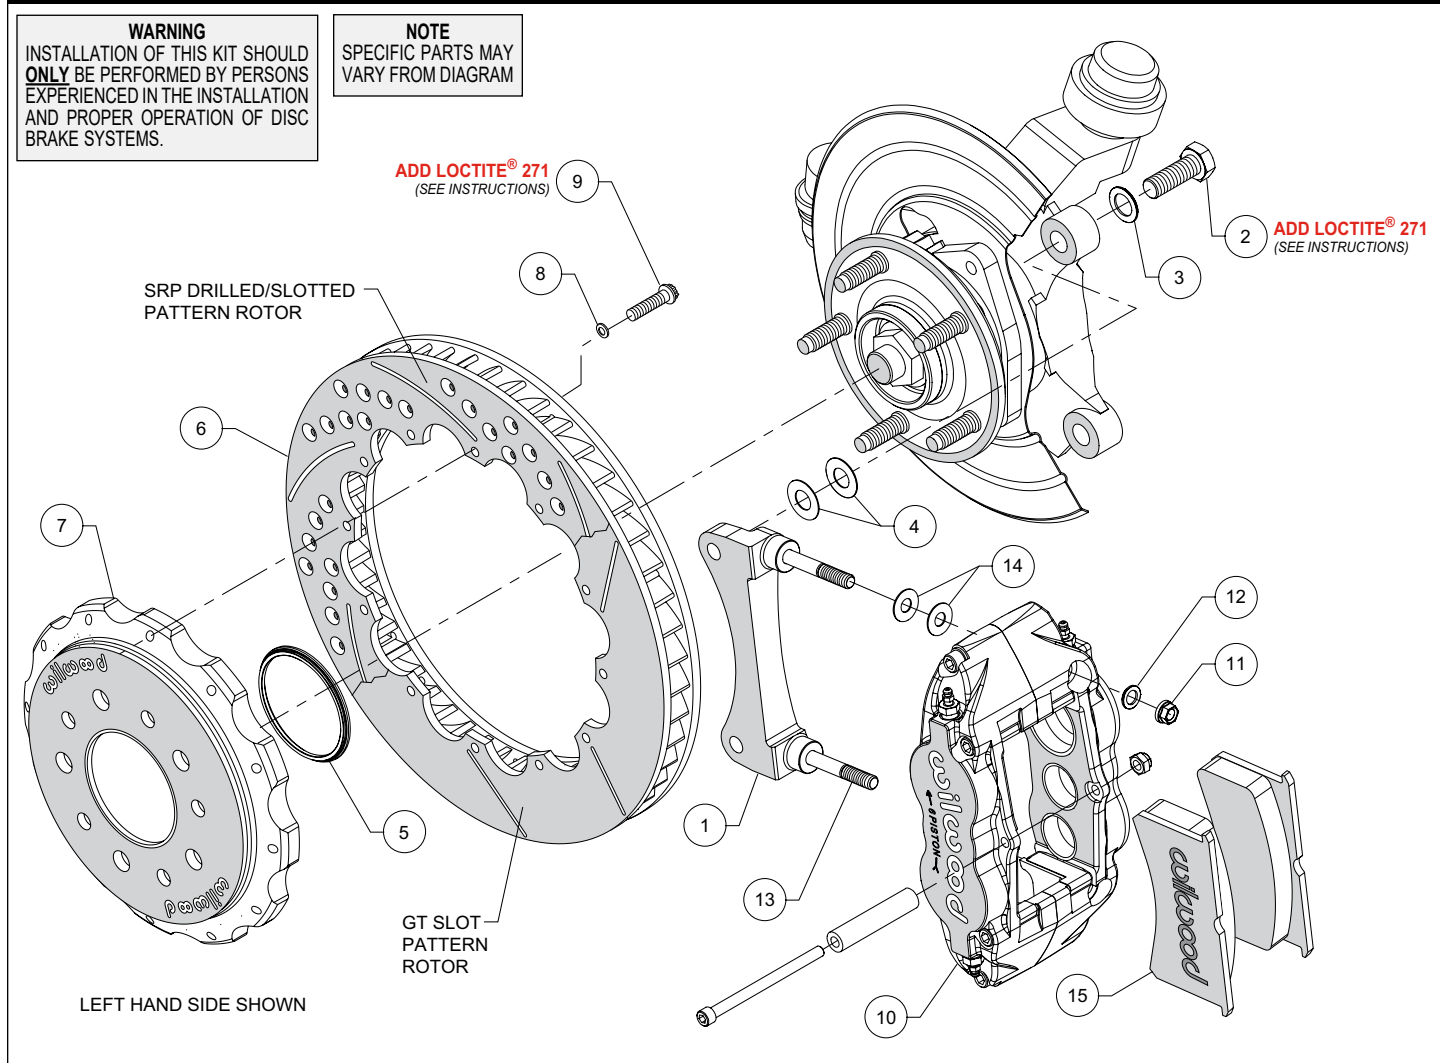
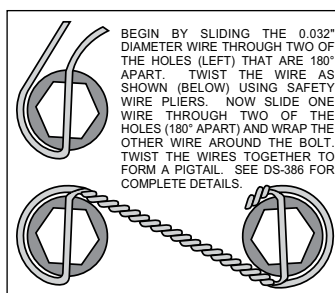

Figure 1. Typical Installation Configuration
Figure 3. Safety Wire Diagram
Assembly Instructions (numbers in parenthesis refer to the parts list and Figure 1 on the preceding pages):
- The caliper mount bracket (1) should initially be installed with clean, dry threads on the mounting bolts. Orient the bracket as shown in Figure 1 and Photo 1 and install using mount bolts (2) and washers (3). Initially place two .029" thick shims (4) on each bolt between the bracket and upright, Figure 1. Temporarily tighten the mounting bolts. **NOTE: The bracket must fit squarely against the mount bosses on the upright.** Inspect for interference from casting irregularities, machining ridges, burrs, etc. Later, after the caliper alignment has been checked, the mount bolts will be secured using red *Loctite*® 271.
- Orient the rotor (6) and the hat (7) as shown in Figure 1 and Photo 2. Attach rotor to hat using bolts (9) and washers (8). Apply red *Loctite*® 271 to the bolt threads and torque to 155 in-lb using a criss-cross pattern. For an added measure of security, the bolts may be safety wired using standard 0.032 inch diameter stainless steel safety wire as shown in Figure 3. Please refer to Wilwood's data sheet DS-386 (available at www.wilwood.com/Pdf/DataSheets/ds386.pdf) for complete safety wire installation instructions.
- **NOTE: This kit contains distinct right and left hand calipers that must be mounted in a specific direction, as described below.** Initially place two .035" thick shims (14) on each stud (13) as shown in Figure 1 and Photo 7. Mount the caliper (10) onto the bracket (1) using lock nuts (11) and washers (12), Figure 1. Ensure that the caliper is mounted so the largest pistons are at the rotor exit end of the caliper, in relation to the direction of rotor rotation. Temporarily tighten the lock nuts and view the rotor through the top opening of the caliper. The rotor should be centered in the caliper, Photo 8. If not, adjust by adding or subtracting shims (4) between the bracket and the upright. Always use the same amount of shims on each of the two mounting bolts. Once the caliper alignment is correct, remove the bracket mounting bolts one at a time, apply red *Loctite*® 271 to the threads, and torque to 75 ft-lb.